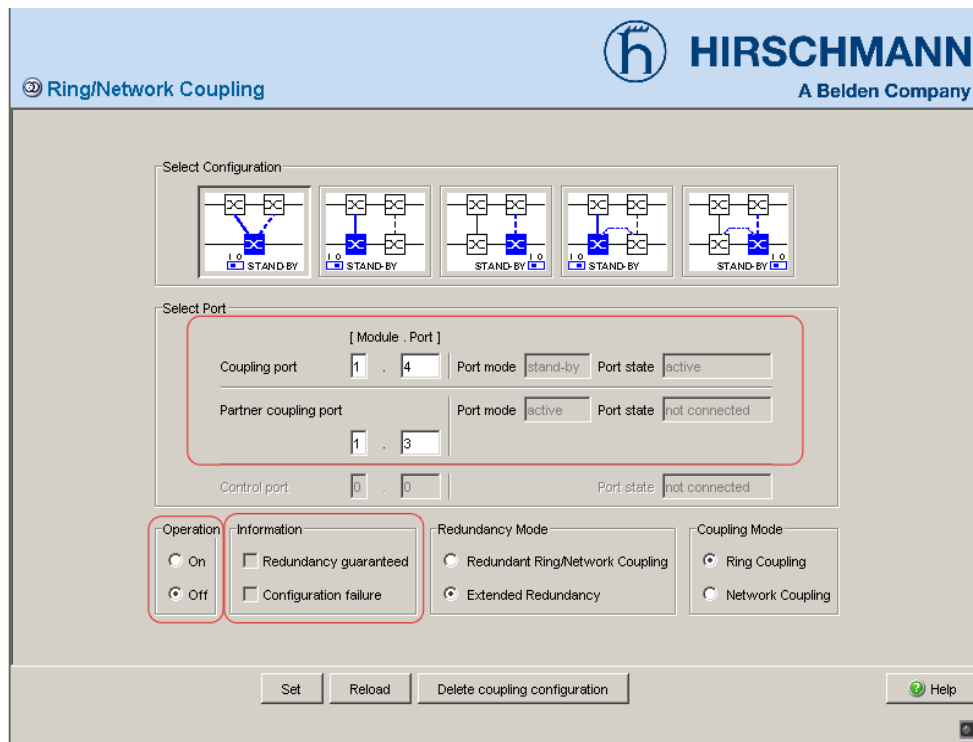

Figure 9: Selecting the port and enabling/disabling operation
- ☐ Select the partner coupling port (see fig. 9), (see table 7).
- ☐ Select the coupling port (see fig. 9), (see table 8).
- ☐ Activate the function in the “Operation” frame (see fig. 9).
The displays in the “Select port” frame mean (see fig. 9):
The displays in the “Information” frame mean (see fig. 9):